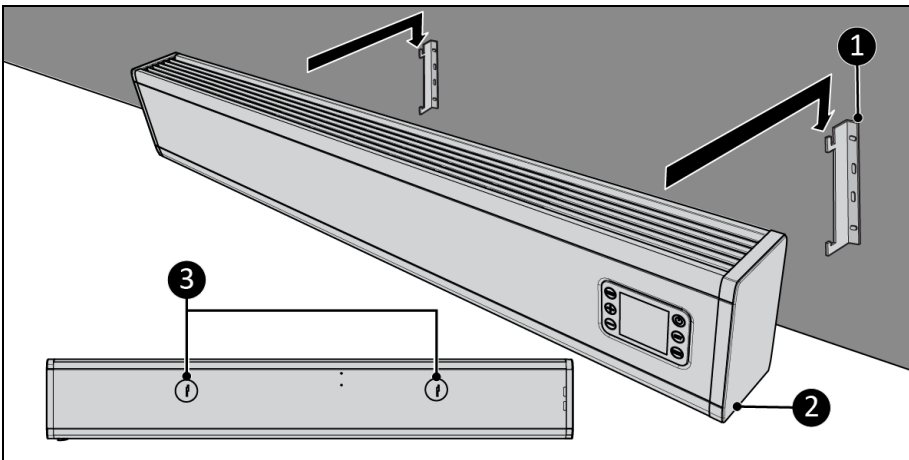

Figure 11
7. Place the bracket holes (Figure 11, pos. 3) over the wall brackets (Figure 11, pos. 1).
8. Let the device (Figure 11, pos. 2) drop into the openings of the wall brackets (Figure 11, pos. 1).